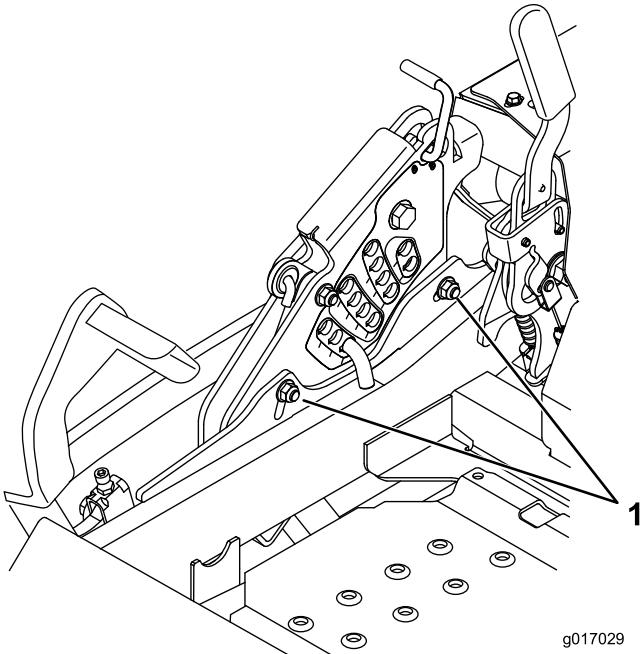

Figure 90
- To adjust the single point system, loosen the two bolts at the bottom of the height of cut plate. Refer to Figure 90.
- Tighten the two bolts at the bottom of the height of cut plate (Figure 90). Torque to 27-33 ft-lb (37-45 N·m).